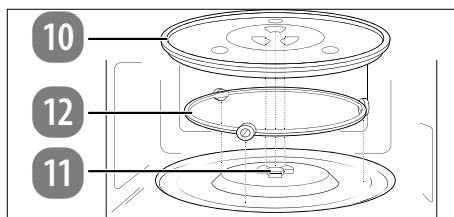

Fig. 6 – Inserting turntable plate
- ▶ Do not use the microwave without properly installing the glass turntable (10).
- ▶ Check that the drive shaft (11) is correctly inserted in the recess on the base of the cooking compartment and that its wings rest flat on the base. If necessary, turn the drive shaft (11) until it sinks into its correct position.
- ▶ Place the roller ring (12) in the recess in the cooking compartment and then place the glass turntable plate (10) centrally on the drive shaft (11) (see Fig. 6) so that the webs of the glass turntable plate lie between the wings of the drive shaft.